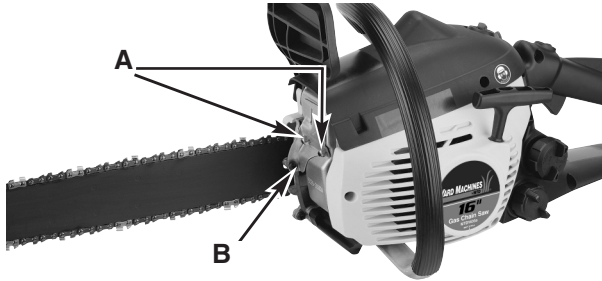

Fig. 37
1. Remove the 2 nuts (A) and pull muffler out. (Fig. 37).